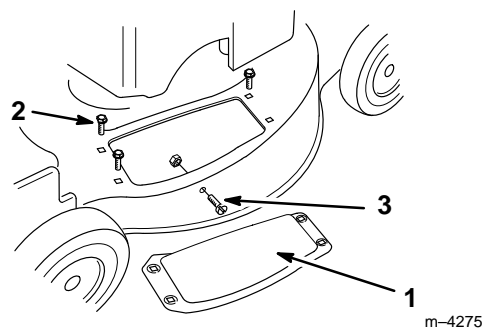

Figure 2
3. Remove and save the three bolts securing the discharge cover to the mower (Fig. 2). Save the cover and bolts for future use.
2. Bolt (3)
4. Remove the screw and nut from side of the mower (Fig. 2). Save them for future use.